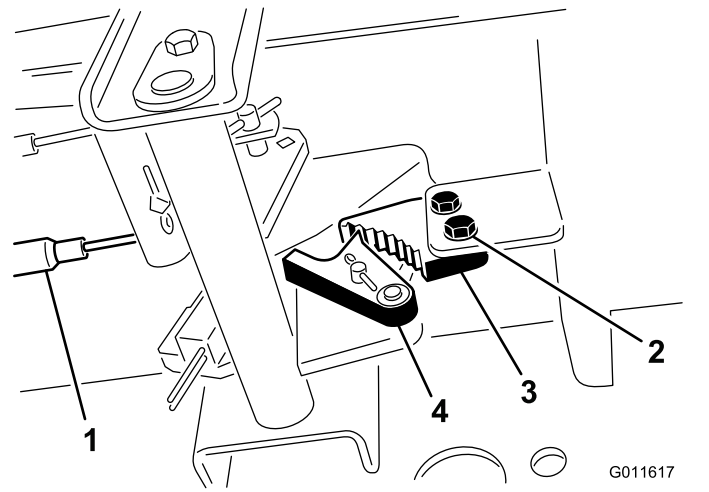

Figure 109
2. Loosen the 2 screws securing the parking-brake pawl to the frame (Figure 109).
3. Press the parking-brake pedal forward until the brake detent completely engages on the brake pawl (Figure 109).